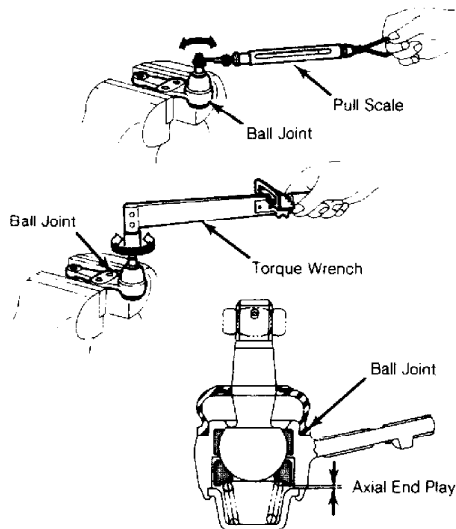

Fig. 2: Checking Ball Joint
5) Attach a pull scale at cotter pin hole of ball stud and check torque. See Fig. 2. On NX and Sentra, reading should be 1.8-13.0 lbs. (.8-5.9 kg). If reading is not within specification, replace ball joint.
6) Install ball joint stud nut. Using an INCH-lb. torque wrench, measure amount of torque required to turn ball joint stud. See Fig. 2. On all models, reading should be 4.3-30.4 INCH lbs. (0.49-3.43 N.m). If reading is not within specification, replace ball joint.